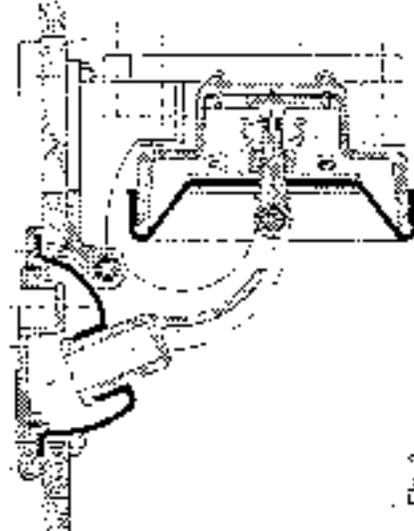

Fig. 3
- Using template mark off the 8 holes for the mounting and cut out the hole for the pump handle. Round off top edge of large hole as shown in fig. 3.